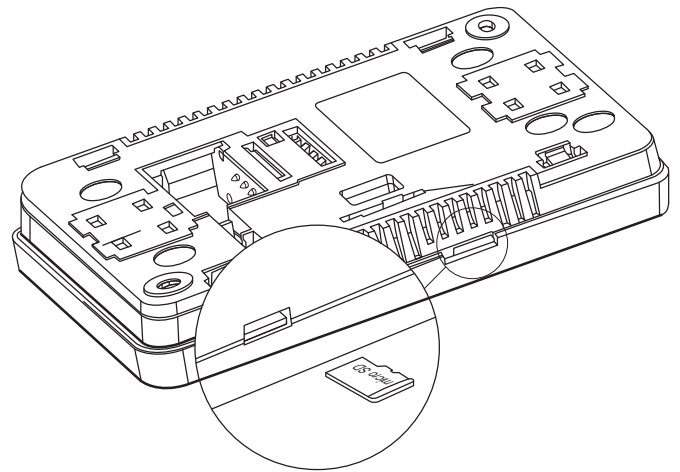

Figure 11-2 Memory card slot
1. Insert memory card into the SD card socket on the touchscreen display. Refer to Figure 11-2.